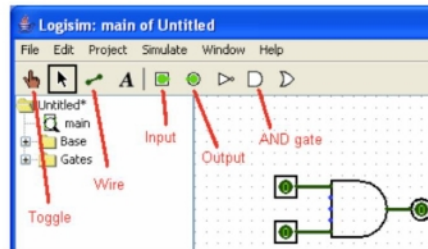

Figure 3
- Select the AND gate from the toolbar in Fig. 3 and place the gate in the dotted field.